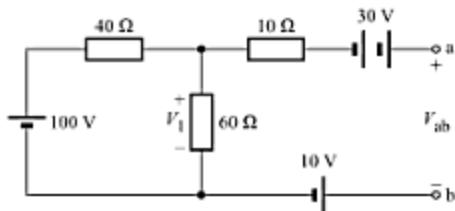

Fig. 3.62
3. Find the voltage V_{ab} across the open circuit in the circuit shown in Fig. 3.62. [Ans. 80 V]